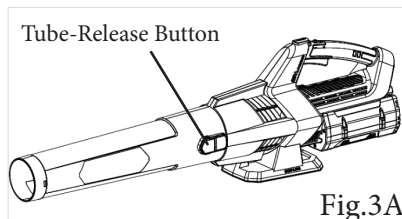

Fig.3A
- To remove the blower tube, press and hold the tube-release button to disengage the latch, then pull the tube straight from the blower. (Fig.3A)